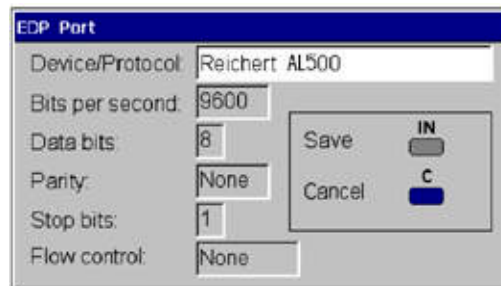

Figure IS-2 EMR Port
3. The following screen will appear. Refer to Figure IS-2.